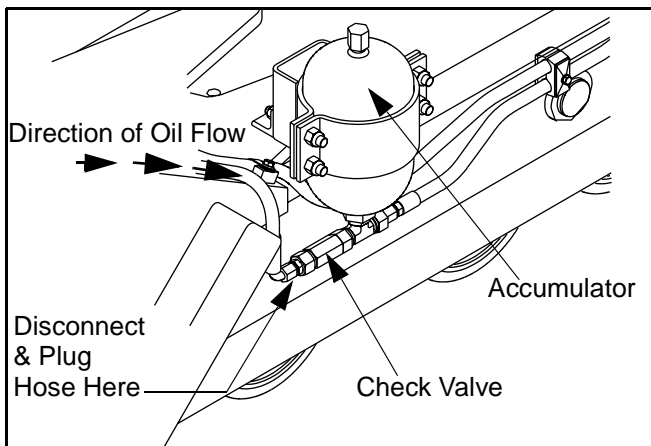

Figure 5 - 25 Track Tension Accumulator
- 1) Install pressure gauge (3000 psi) at test port marked BTM on the Track Tension Release Valve (Figure 5 - 26).